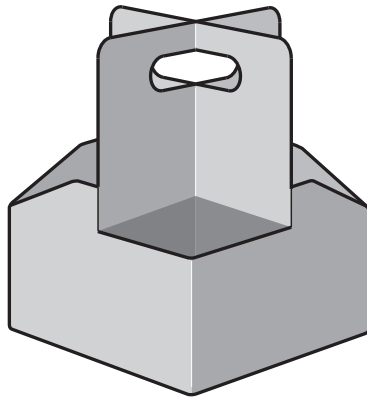

Fig. 6
- 5 Fig. 6 shows a drinks carrier given to customers by a fast food restaurant.